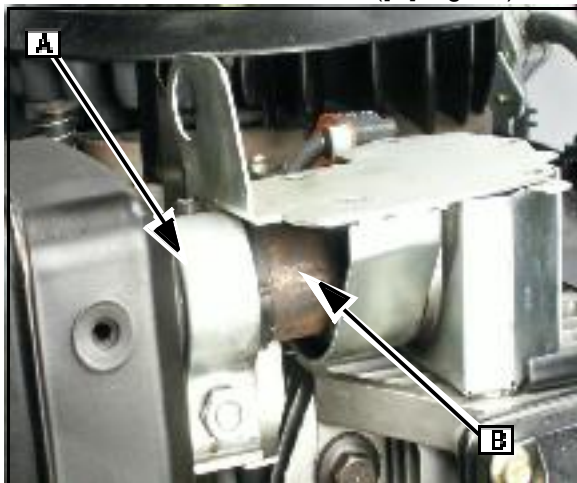

Fig. 27
8. Push the muffler and clamp assembly ([A]) on the exhaust manifold ([B] Fig. 27).